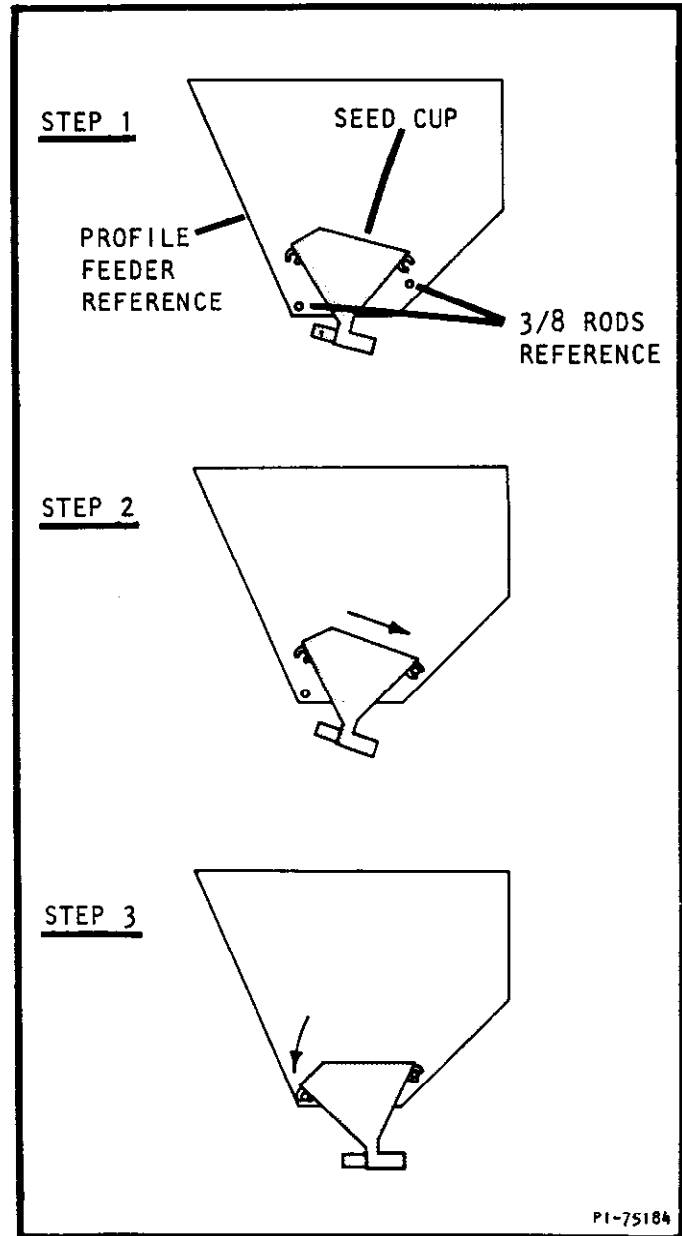

Fig 1 Seed Cup Installation
8. Assemble the seed cups and air hoses at this time. Fig 1 shows the correct procedure for the installation of the seed cups. It is important that the seed cups be handled carefully.